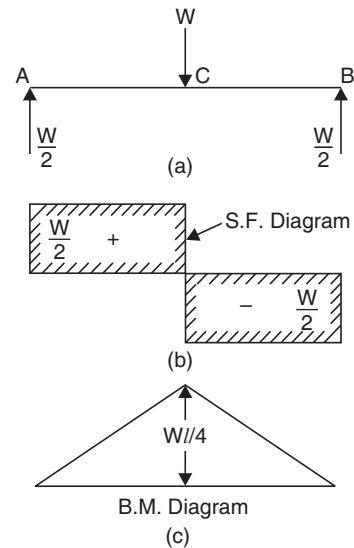

FIGURE 8.7
(a) **Beam with a point load at the centre.** A beam AB of span l , simply supported at the ends A and B and carrying a point load (W) at the centre is shown in Fig. 8.7 (a).
(i) The shear force and bending moment diagrams are shown in Figs. 8.7 (b) and (c) respectively.